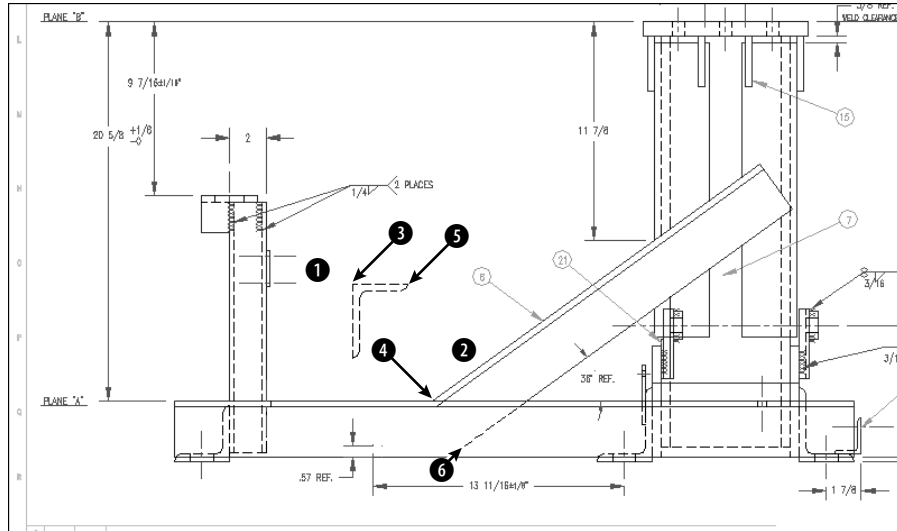

Figure 10-12: A base assembly for a commercial washing machine.
2. Save the file as ab10-04.dwg in your AutoCAD Bible folder. It looks like Figure 10-12.
Specify first source point: *Pick the endpoint at ❸ in Figure 10-12.*